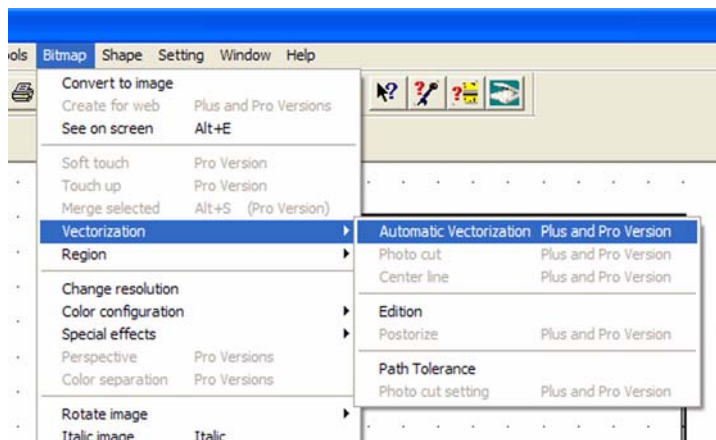

Figure 163
- 6** On the **Bitmap** menu, click **Vectorization** and **Automatic Vectorization**. See figure 163.